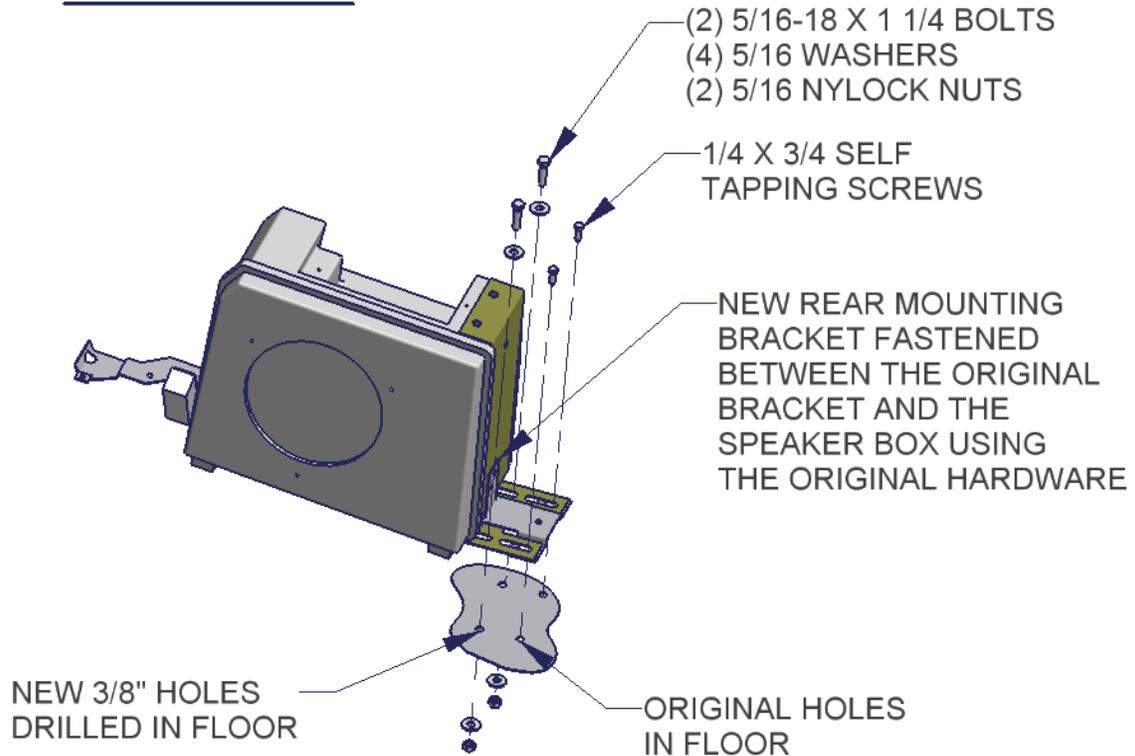

FIGURE 3
16. Bolt the Tuffy console to the new mounting bracket using (2) 5/16 x ½" Bolts and washers. (See Figure 3) A small screwdriver may need to be used to maneuver the mounting bracket in order to line up the mounting holes.
17. Fasten the Tuffy console to the speaker box using (3) 8 x 5/8 Panhead Phillips screws and (2) 8 x 1 ¼" Panhead Philips screws. (See Figure 3)
19. Line up Tuffy console with original front shifter console and fasten down through the original front drink holder mounting hole, the Tuffy console, and the speaker box using a ¼ x 1 ¾ Self tapping screw. (See Figure 3)